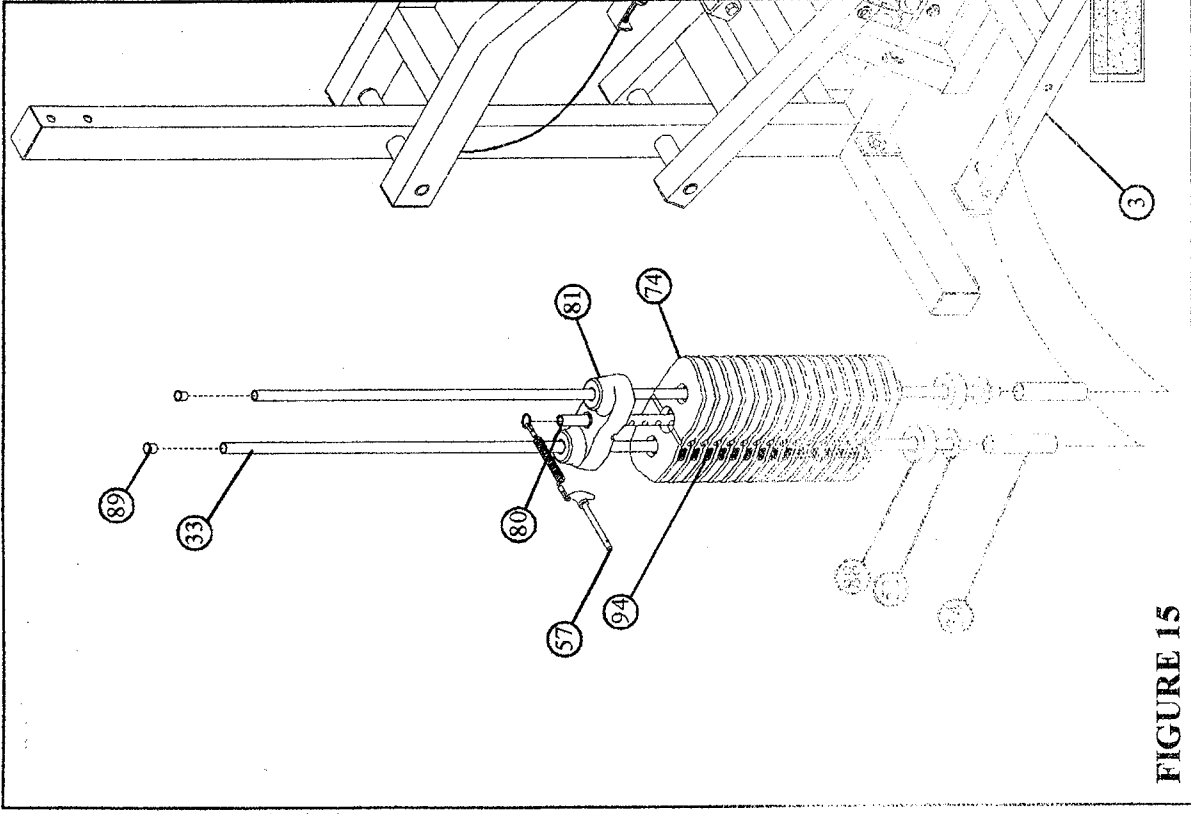

FIGURE 15
- Insert two GUIDE RODS (33) into the WEIGHT STACK BASE (3) as shown on FIGURE 15. (NOTE: Lubricate GUIDE RODS (33) with silicon or teflon spray available at most hardware stores.)
- Slide two WEIGHT STACK SPACERS (34), two 3/4" WASHERS (53), and two WEIGHT STACK CUSHIONS (88) - IN THAT ORDER - down over the GUIDE RODS (33).
- Using **EXTREME CARE** slide all fifteen WEIGHT PLATES (74) down over the GUIDE RODS (33) on to the WEIGHT STACK CUSHIONS (88). Make sure that the keyholes of the WEIGHT PLATES (74) are all facing the right way.
- Slide the head plate assembly down over the GUIDE RODS (33) onto the weight stack.
- Insert two CAP PLUGS (89) into the top ends of the GUIDE RODS (33).
- Attach the WEIGHT STACK LABELS (94) on the weight stack. (NOTE: LABELS consist of one with the Headplate) Also insert the WEIGHT STACK PIN (57) over the WEIGHT PLATE SHAFT (80) as shown.